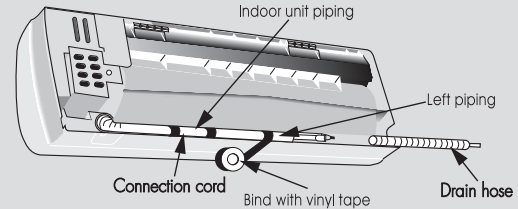

Figure 10
- Form the refrigerant piping in the required direction, and bind the drain hose and the electrical connection cord together with vinyl tape. The drain hose should be at the bottom. ( Figure. 10 )